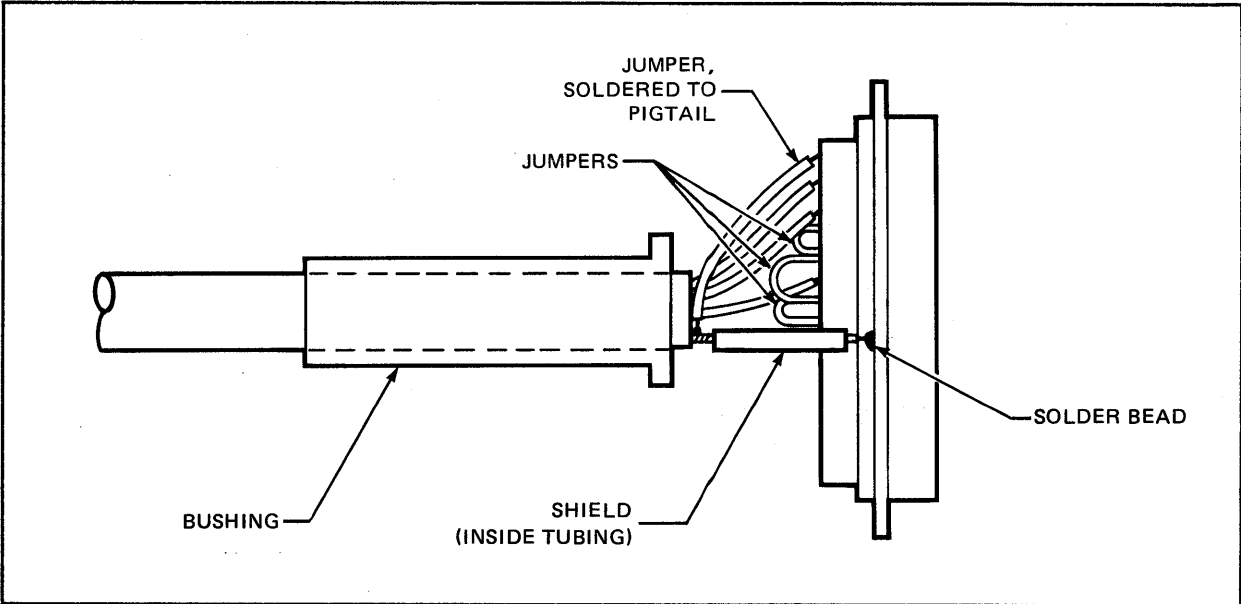

Figure D-11. RS-232-C, 25-Pin, Shield Wiring Details
- g. Solder the end of the pigtail to the metal shell of the insulator block as shown in Figure D-11. Heat the metal shell and lay a bead of solder first. Keep the profile of the bead as low as possible.